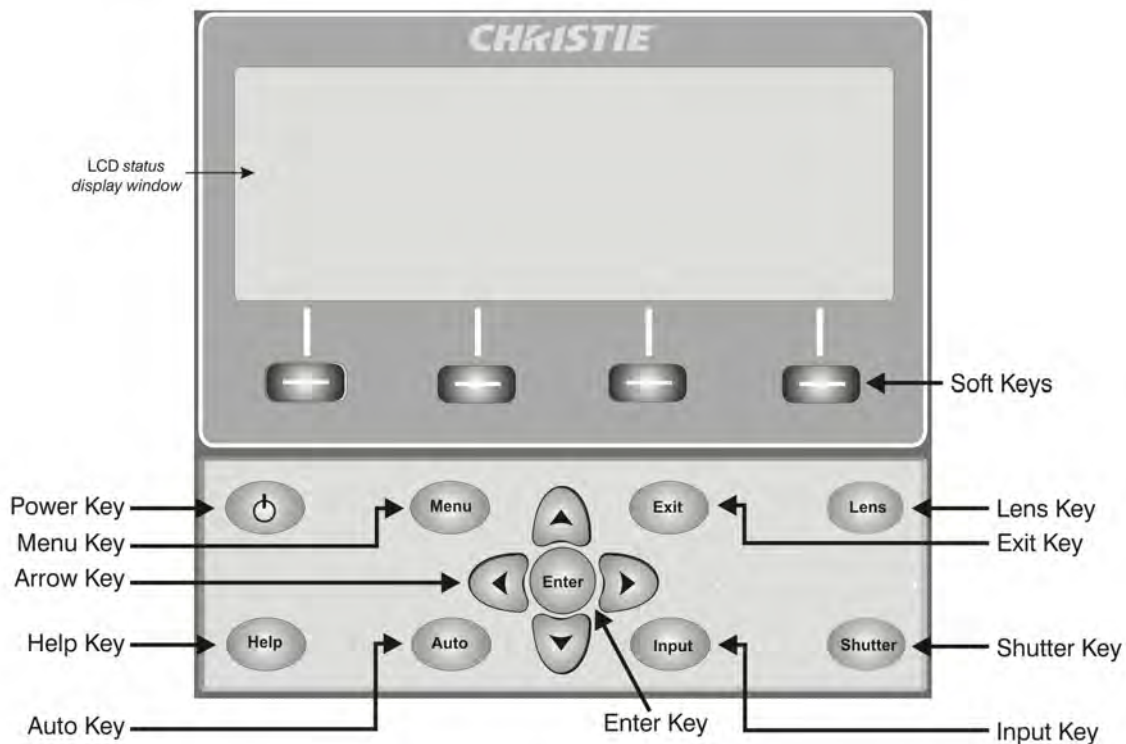

FIGURE 3-2 BUILT-IN KEYPAD
- **Built-in Keypad:** Located at the side of the projector, see *Figure 3-2 Built-In Keypad*.